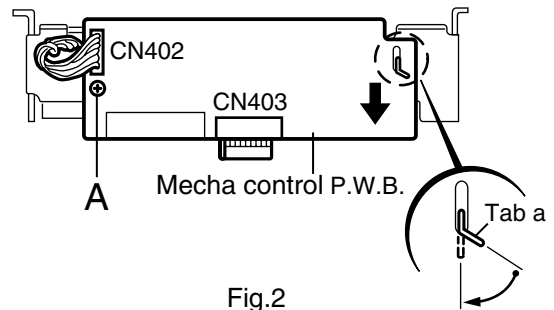

Fig.2
4. Move the tab a as shown in Fig.2 and remove the mecha control P.W.B. while moving it in the direction of the arrow.